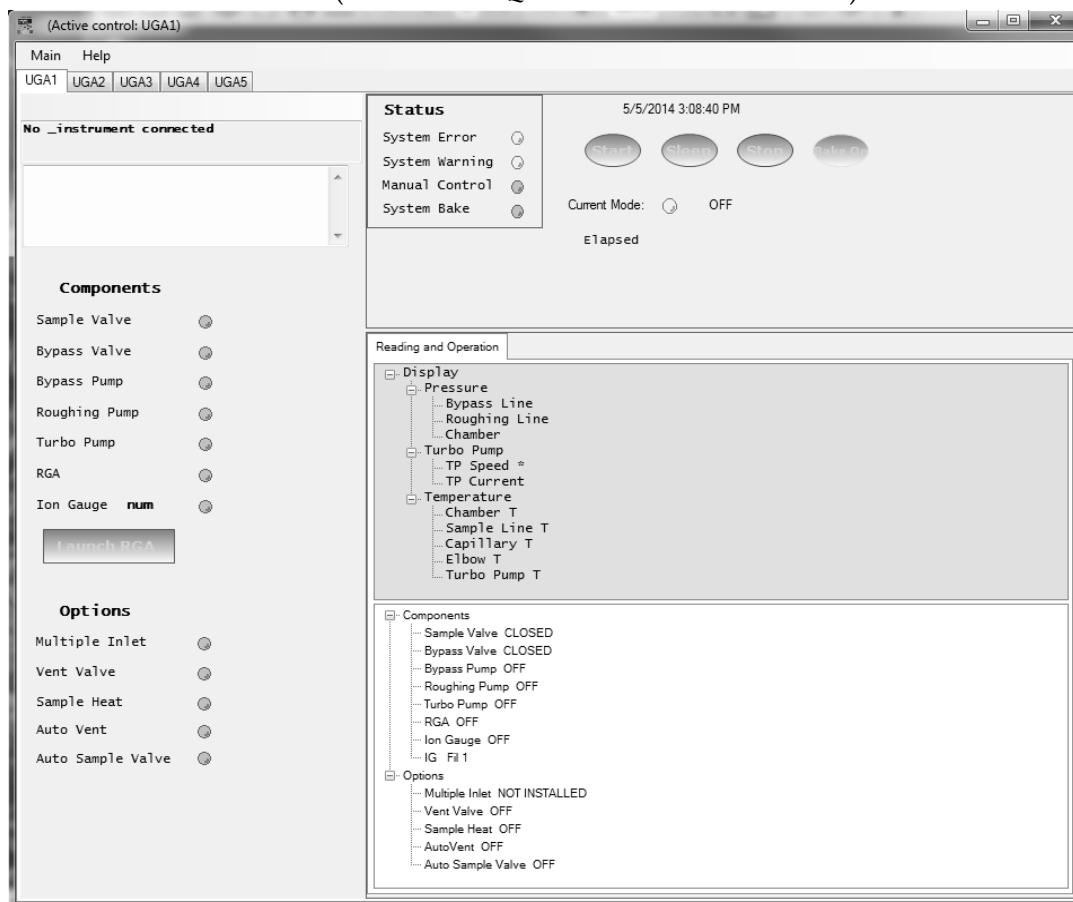

Fig. 2-3 Screenshot of the initial window of UGA control software.
A full featured software application included with the instrument provides an intuitive graphical user interface to the controls (See figure 2-3). All pumps, valves and heaters can be controlled from within the software. Every operation that takes place (valve open or close, pumps turned on or off, heaters activated, etc.) is logged as a time stamped "event" by the software. The event log can be stored as a file on the PC hard drive. This log can be very useful for troubleshooting: if a user finds the UGA's interlocks activated while he was away, the event log will show what gauge registered an overpressure and when. This allows the user to track exactly where a problem began instead of guessing what went wrong. This can save hours of time in debugging a vacuum process.
4. Select 'UGA' icon or double click 'UGAControlApp.exe'. You should see the screen look like below. (Fig. 2-3) If the window is blank, click 'Main' and select 'New UGA'.